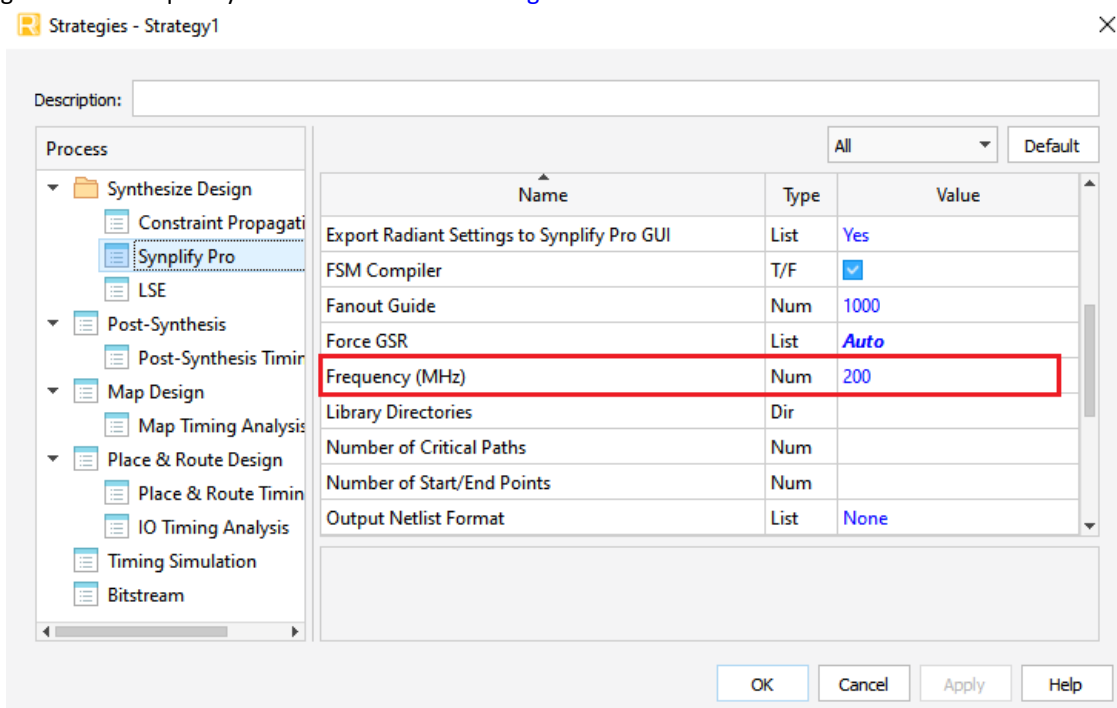

Figure C.75. Strategy for Build Generation for Main System
10. Change value of Frequency to **200 MHz** as shown in Figure C.75.